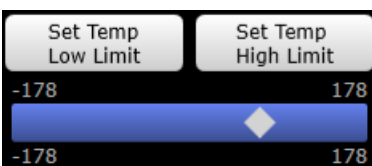

Figure 102 - Axis Bar and Limit Buttons
1. From the **Axis List** in the on the **Axis Control** panel, select an axis for which you want to set a limit. For most axes, one axis bar and two limit buttons (**Low Limit** and **High Limit**) appear (Figure 102).